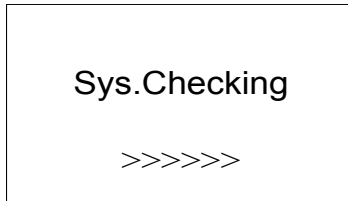

Figure 5.1 - System Self-Check Ongoing
- (1) System check mode for startup, as shown in Figure 5.1: